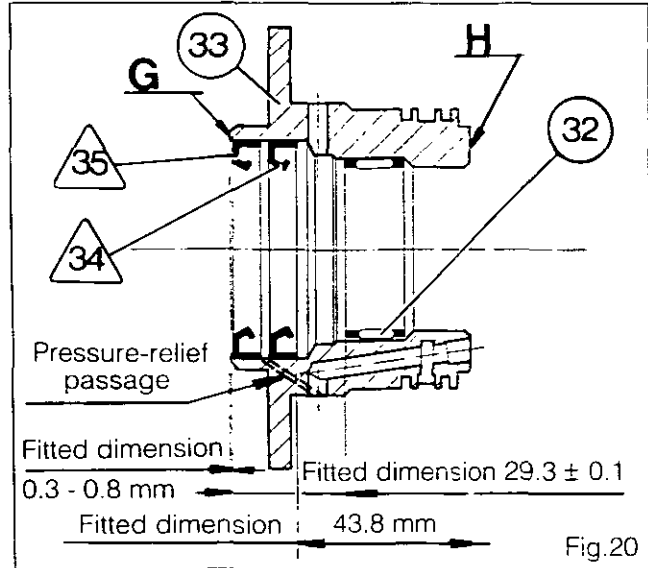
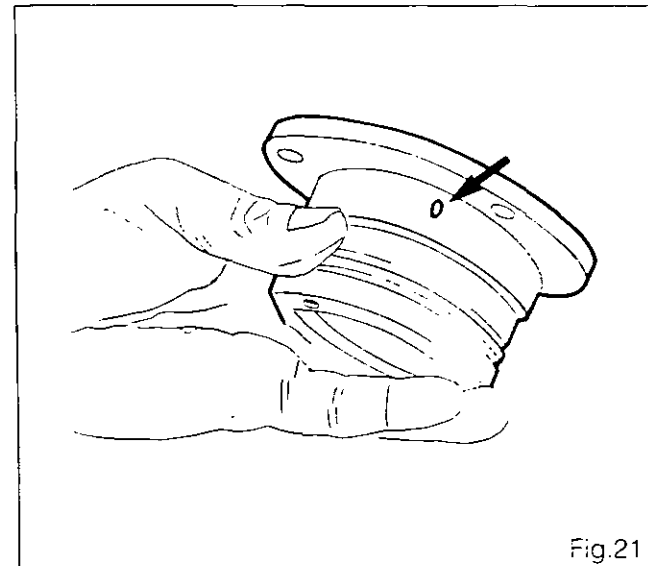
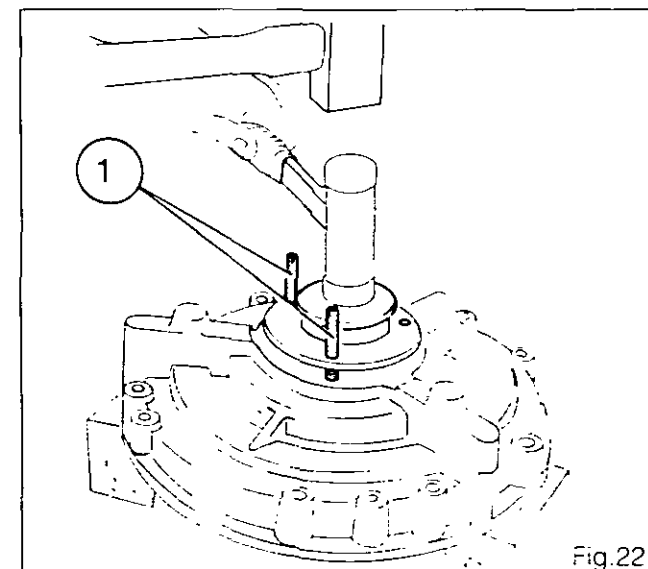

Fig.20
Fig.21
Fig.22
**N.B. : Ball (40) is crimped into the ring carrier.**
72. Position (Fig.20) :
- needle-roller bearing (32) at  $29.3 \pm 0.1$  mm from face G
**Having fitted seals /34\ and /35\, check that the two pressure-relief passages are not blocked (Fig.21).**
73. Apply a gasketing compound (Loctite Masterjoint 510 or equivalent) to the mating face of the cover to allow the ring carrier (33) to be fitted.
74. Screw two pilot pins (1) into the cover. Engage the ring carrier in the cover bore (Fig.22).
75. Tap the ring carrier home in the cover (Fig.22).